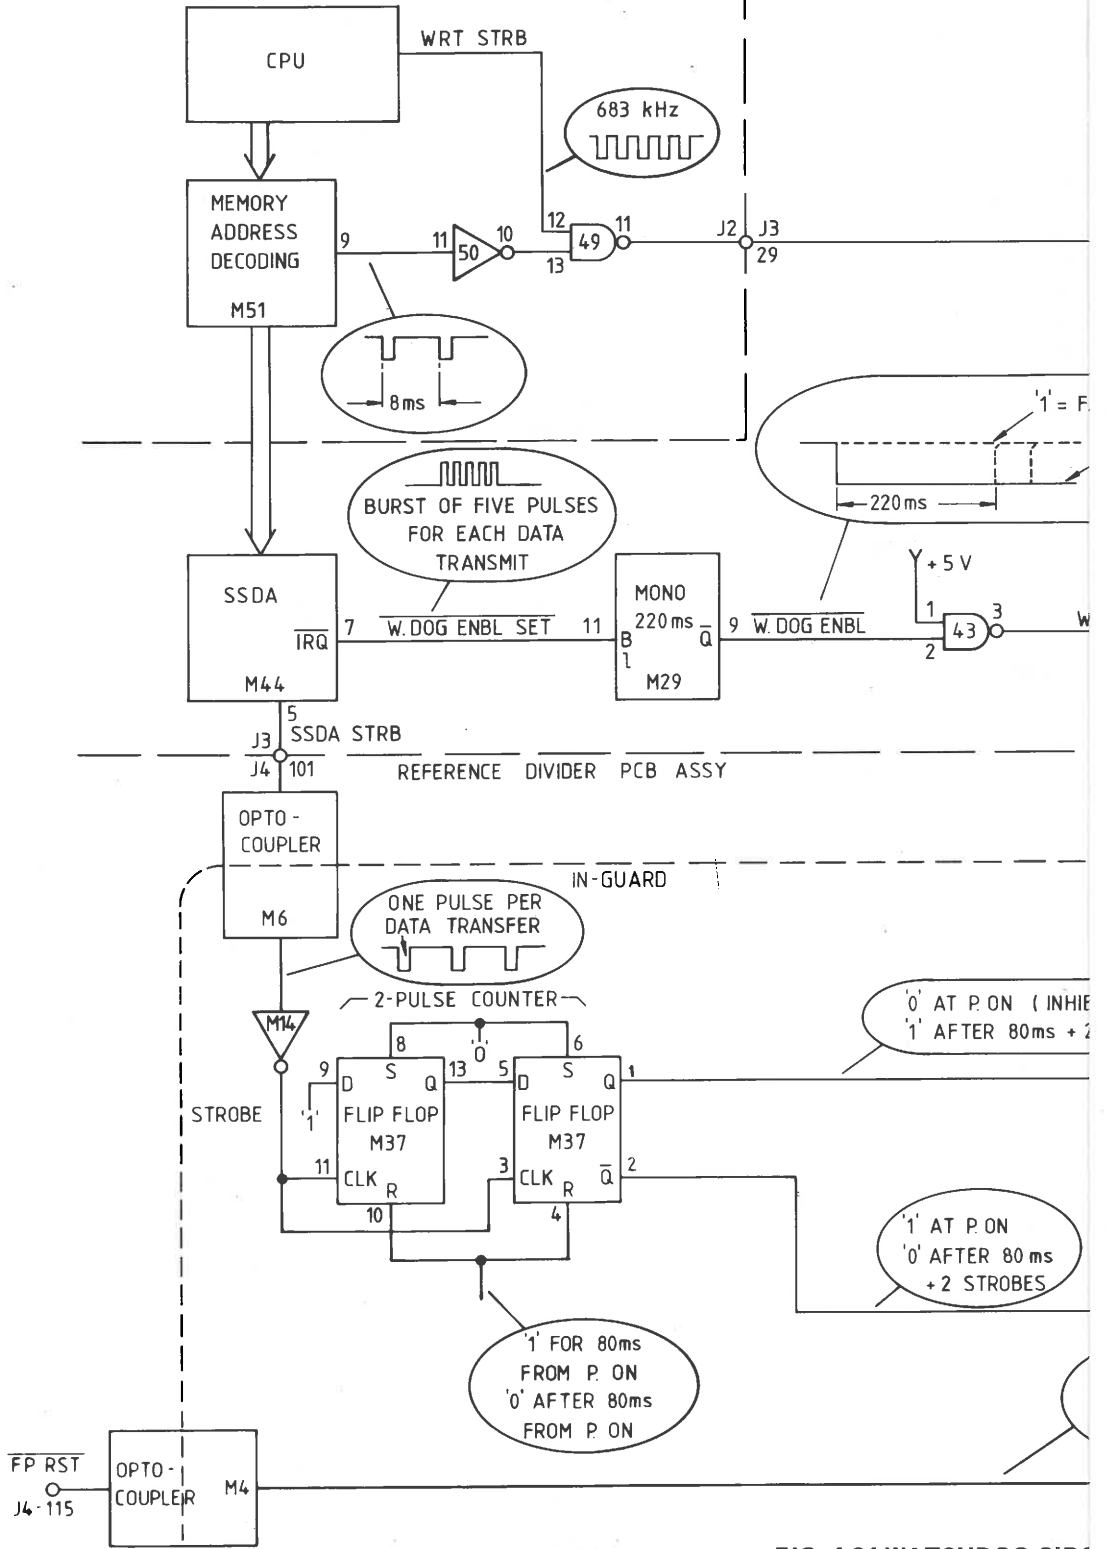

FIG. 4.21 WATCHDOG CIRCUIT
4.5.6 Safety Monitor (Watchdog) (Fig. 4.21)